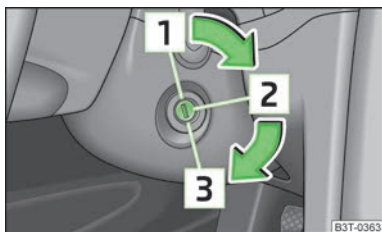

Fig. 113
- When driving, the ignition key must always be in the position 2 » Fig. 113 on page 105 (ignition switched on) without the engine running. This position is indicated by the indicator lights coming on. If this is not the case, it could result in unexpected locking of the steering wheel - risk of accident!
- The starter may only be operated (ignition key position 3) » Fig. 113 on page 105), if the engine is not running. The starter or engine can be damaged if the starter is activated when the engine is running.
If the **steering is locked** and the key cannot or can only be turned with difficulty into the position » Fig. 113, move the steering wheel back and forth and the steering lock will unlock.
- Fully depress and hold the clutch pedal, switch on the ignition » Fig. 113 on page 105 and start - do not operate the accelerator. Depress the clutch pedal until the engine starts.
Switch off the engine by turning the ignition key into position » Fig. 113 on page 105.